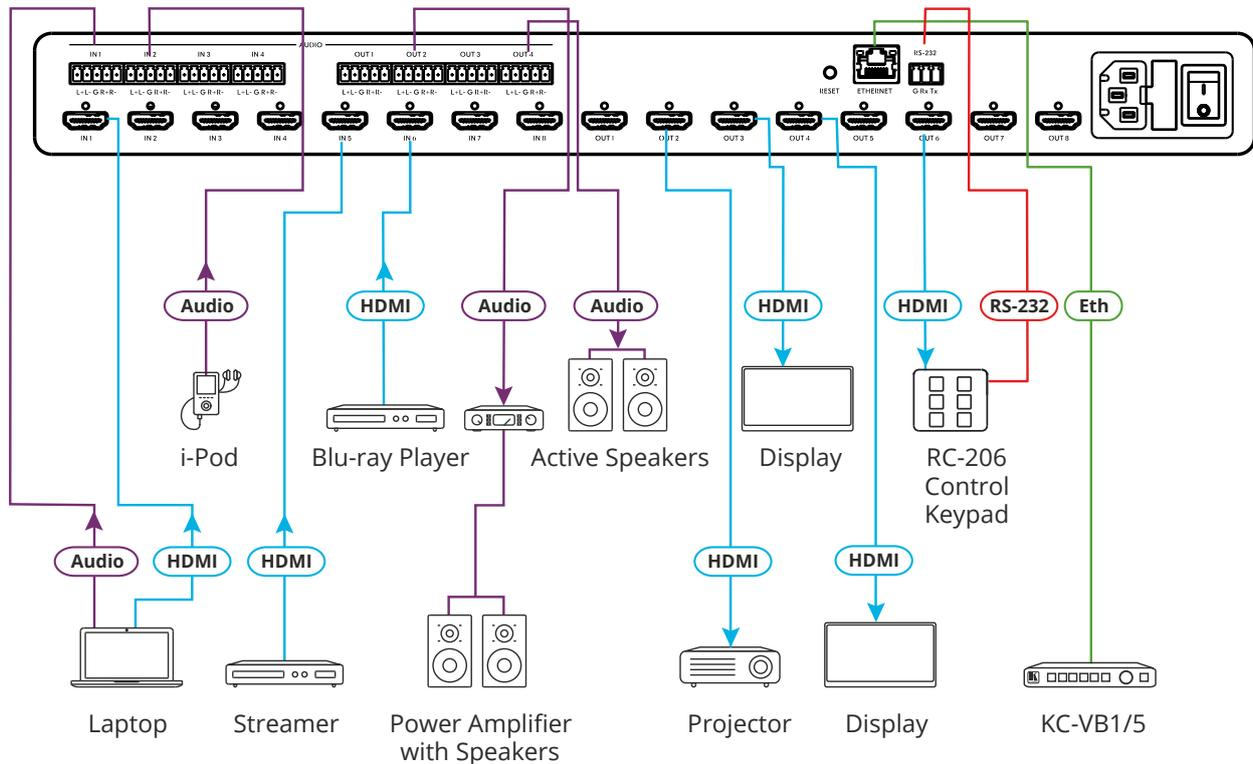

Figure 3: Connecting to the MTX3-88-HSA Rear Panel
To connect MTX3-88-HSA as illustrated in the example in Figure 3:
- Connect up to four analog stereo audio sources to the AUDIO IN (20) (from IN 1 to IN 4). For example, connect:
- Connect the eight video HDMI OUTPUT connectors (22) (from OUTPUT 1 to OUTPUT 8) to up to eight acceptors. For example, connect:
- Connect the four balanced analog output 5-pin terminal block connectors (21) (from OUT 1 to OUT 4) to up to four audio acceptors. For example, connect:
- The ETHERNET port (24) to a control device (in Figure 3, KC-VB 1/5).
- The RS-232 port (25) to a controlled device (in Figure 3, TV monitor).
6. Connect the power cord to the power connector (26) and to the mains electricity (not shown in Figure 3).